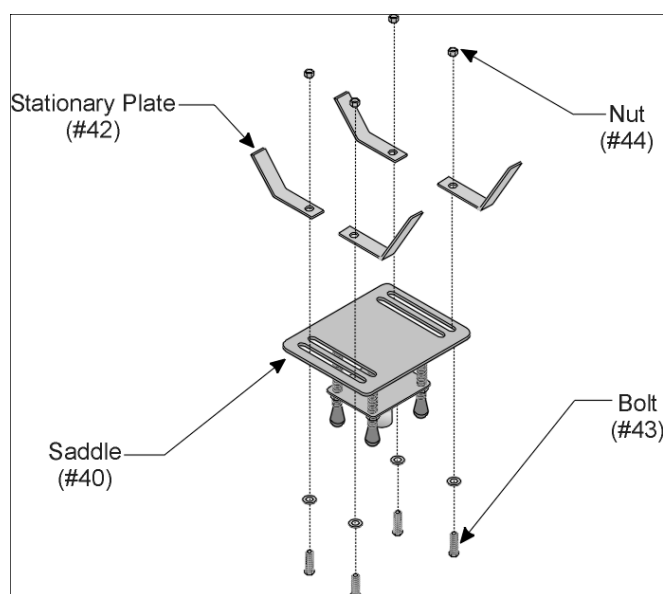

Figure 2-Installing the Stationary Plates
- Step 4: Reinstall the STATIONARY PLATES using the NUTS, Washers, and BOLTS as shown in Figure 2.